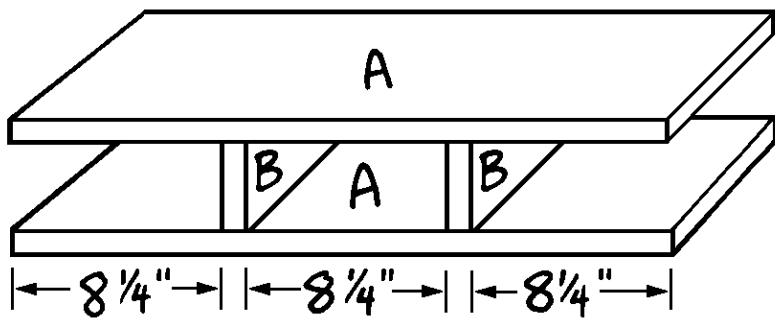

Figure 1
1. Cut two 26-1/4"-long top/bottom pieces (A) from 1 x 10 pine.
2. Cut two 3-5/8"-long inner dividers (B) from 1 x 10 pine.
3. Place the top/bottom pieces (A) on a level surface, parallel to each other, on edge, and 3-5/8" apart. Fit the two inner dividers (B) between the two top/bottom pieces (A), spacing them 8-1/4" from each other and from the ends, as shown in *Figure 1*. Glue the inner dividers (B) in place and drive three evenly spaced 1-1/4" screws through the top/bottom pieces (A) and into the edges of the inner dividers (B) at each joint.